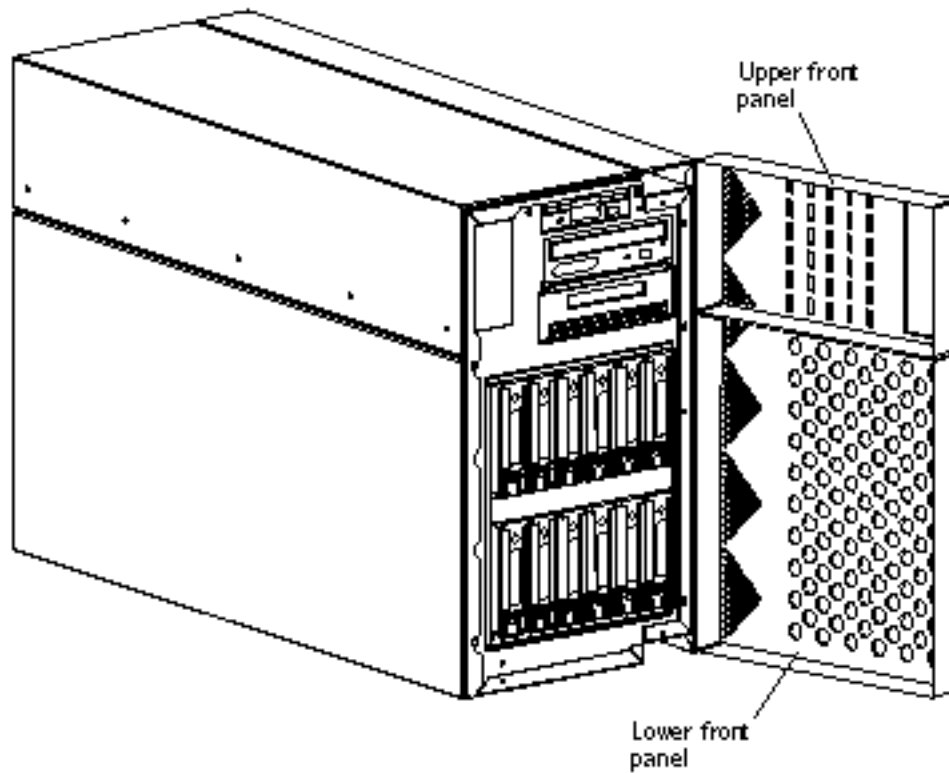

Figure 2-24 Closing the Upper and Lower Front Panels
1. Swing the lower front panel closed and press against the left side to snap the panel into place (Figure 2-24).